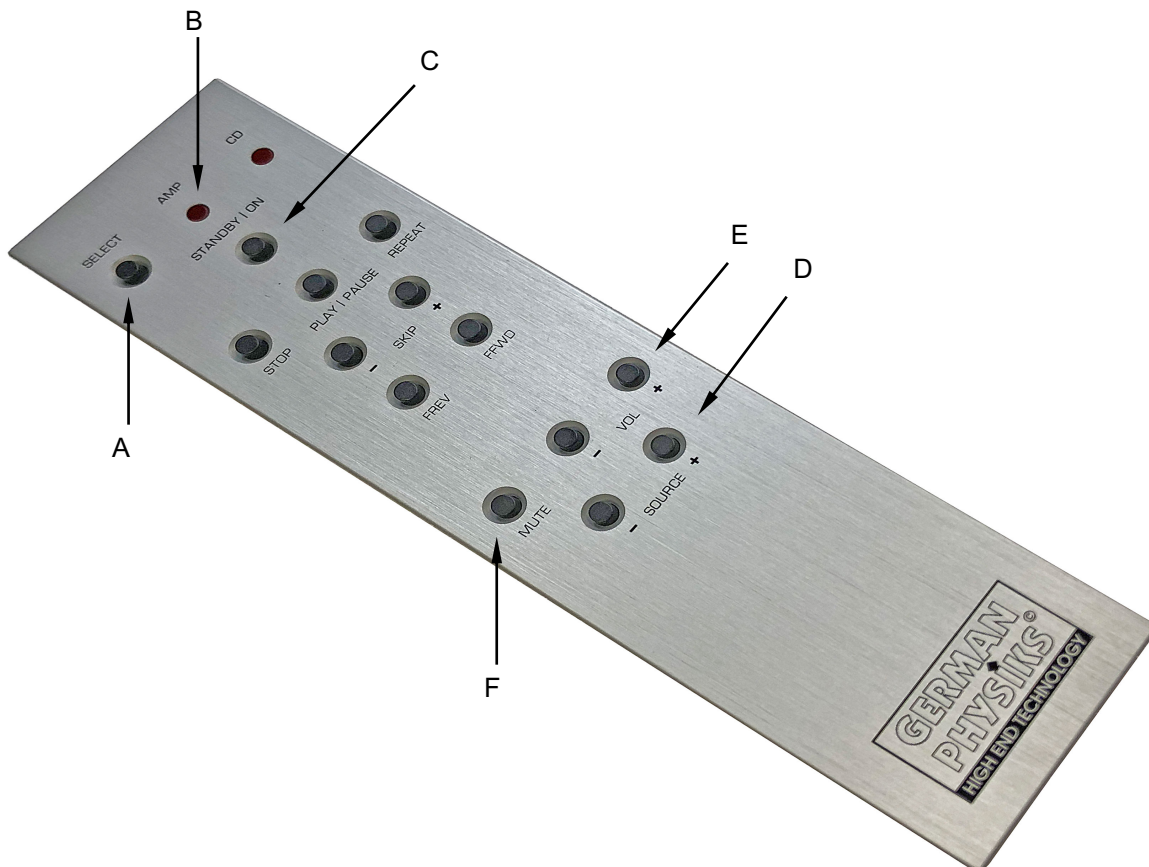

Figure 6. Emperor remote control.
A. Select: To use the remote with an Emperor amplifier, press the **Select** button, once or twice, so that the **AMP** LED, figure 6, B, illuminates briefly.